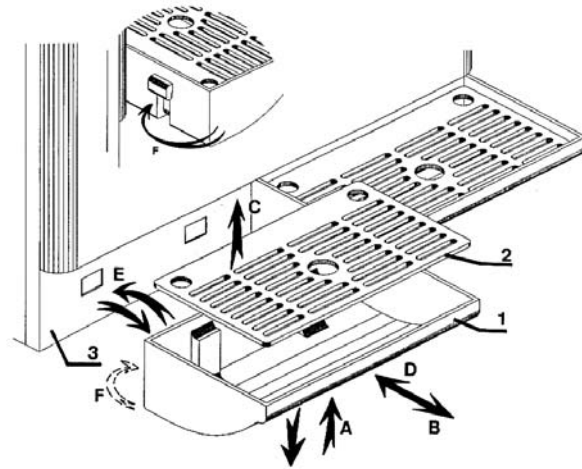

Figure 7
The front drip tray(s) (**Figure 7**) should be emptied daily or more frequently if necessary. To remove the drip pan, push the pan slightly upward (**arrow A**), then bring it forward (**arrow B**) and remove the grid (**arrow C**). Put the grid (**#2**) back on the tray and place the spigots (**arrows F**) in the holes (**arrows D, E and G**) on the front panel (**#3**).
1. Slide trip trays into place (**Figure 7**).